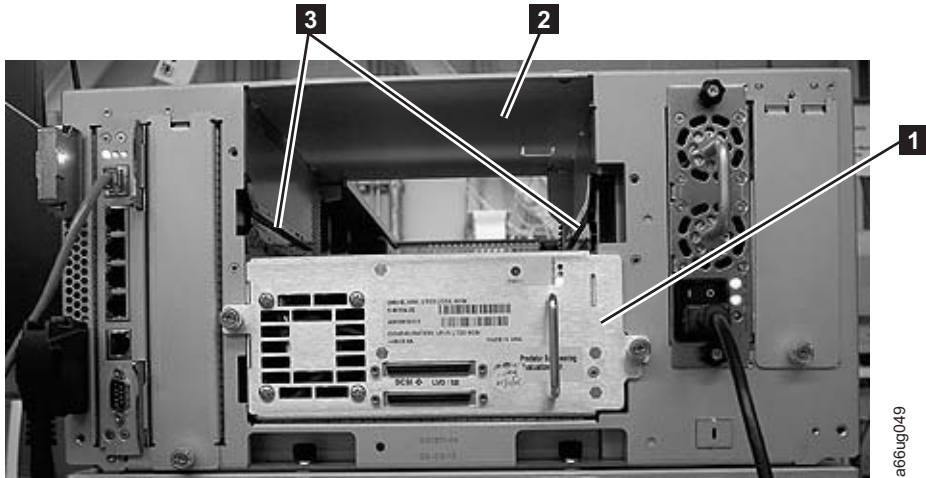

Figure 4-32. Guide rails and guide slots inside a drive slot
1. Align the drive sled with the guide rails and guide slots along the tracks (**3** in Figure 4-32 on page 4-28).